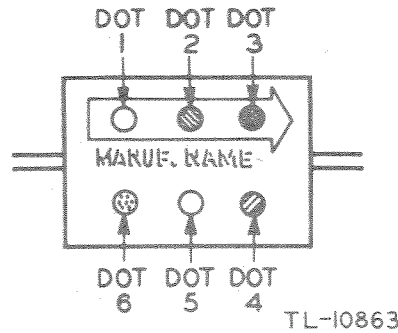

Figure 12. Molded-paper capacitors, AWS six-dot color code.
(2) The fifth dot in the AWS color code indicates the capacitance tolerance in percent of rated capacitance. The sixth dot denotes characteristics of design. For example: a 0.006-microfarad (6,000 micromicrofarads) plus or minus 10 percent mica capacitor would be marked: black (0), blue (6), black (0), red (100), silver (plus or minus 10 percent), black (mica bypass, with no temperature coefficient specified).
(3) It will be noted that this color code does not include the voltage rating. This is considered unnecessary since, with few exceptions, all capacitors marked with the AWS color code are rated at 500 d-c working volts. The exceptions, all of which are rated at 300 volts, are: AWS type CM35 capacitors with capacitances of 6,800, 7,500, and 8,200 micromicrofarads; AWS type CM40 capacitors with capacitances of 9,100 and 10,000 micromicrofarads.
d. The AWS Code for Molded-paper Capacitors. (1) the AWS color for molded-paper dielectric capacitors is shown in figure 12.
(2) No indication of the working voltage is given by this color code. However, all AWS molded-paper capacitors have d-c working voltages between 300 and 800 volts. In general the lower voltage rating applies to units with high-capacitance ratings; the higher voltage rating applies to units with low-capacitance ratings as shown in figure 12.